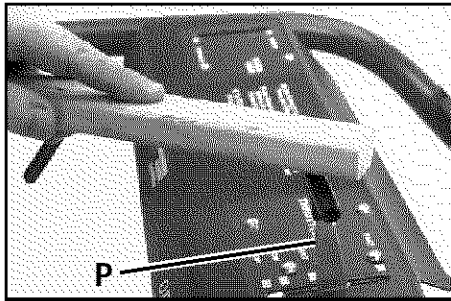

Figure 2-13: Install knob onto engine throttle lever.
2. Insert the lever (P, Figure 2-13) up through the slot in the control panel, labeled *ENGINE THROTTLE*.
5. Place the "T" shaped engine throttle lever knob onto the end of the lever and use a board to tap the knob down until it seats firmly on the lever (see Figure 2-13).